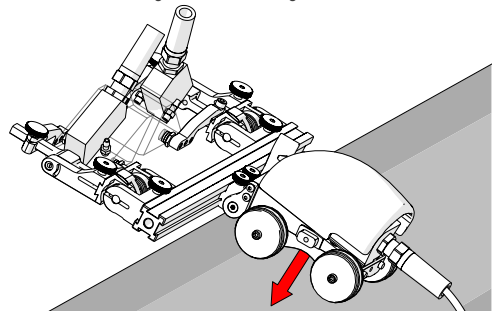

Fig. 96 - Place on scan surface
4. Place the configured **MICROBE** on the scan surface (Fig. 96).